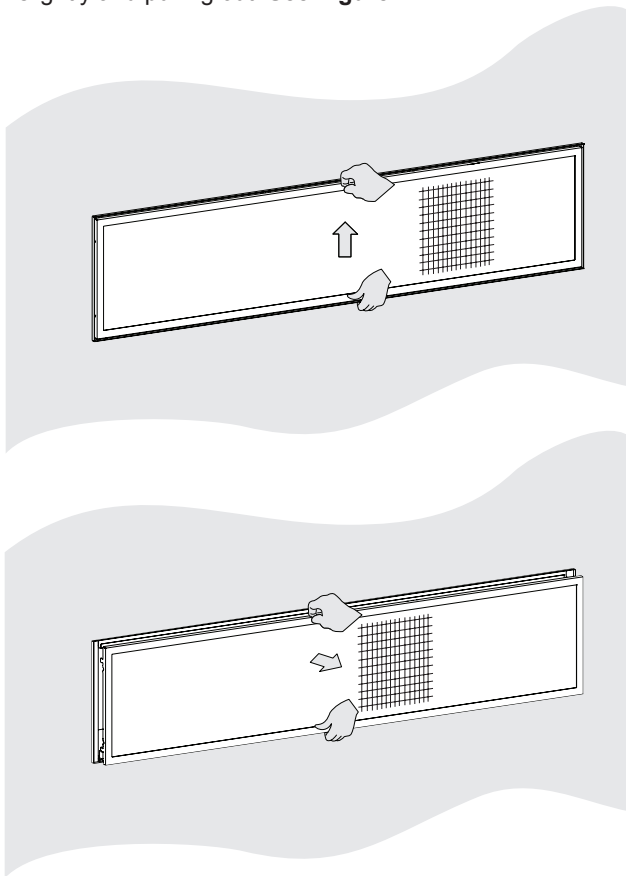

Figure 1
1. Remove barrier screen assembly from fireplace by lifting up, slightly and pulling out. **See Figure 1.**